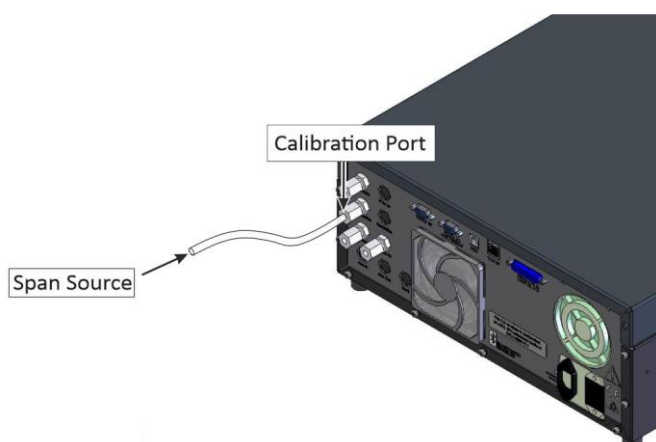

Figure 117 – Span Calibration Set-up - 1
1. Refer to Figure 117. Ensure a suitable span source is connected to the **Calibration Port**.